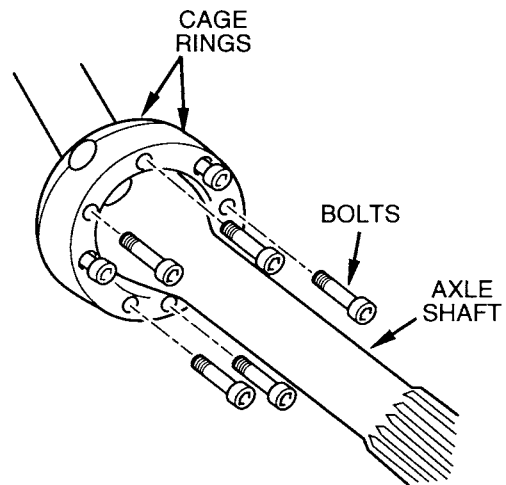

Figure 26 Assembling Cage Ring Halves
23. Place a thin layer of lubricant on the axle shaft trunnions and also in the mating bores of the cage ring (20).
24. Use marks made during disassembly to slip the correct half of the cage ring over the axle shafts. Insert and start the capscrews, securing the cage ring halves together. (See Figure 26).